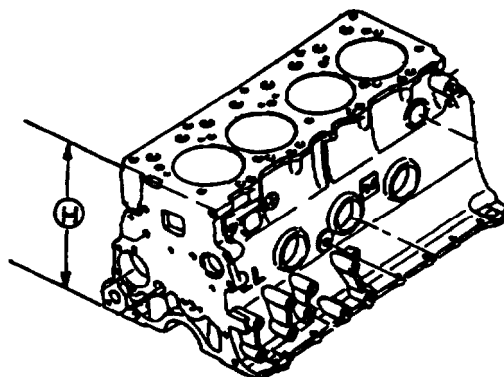

FIGURE 3-113. Cylinder Block Height Measurement
- (5) Standard cylinder block height is 10.748 in. (273 mm) with a limit of 10.732 in. (272.6 mm), refer to FIGURE 3-113.